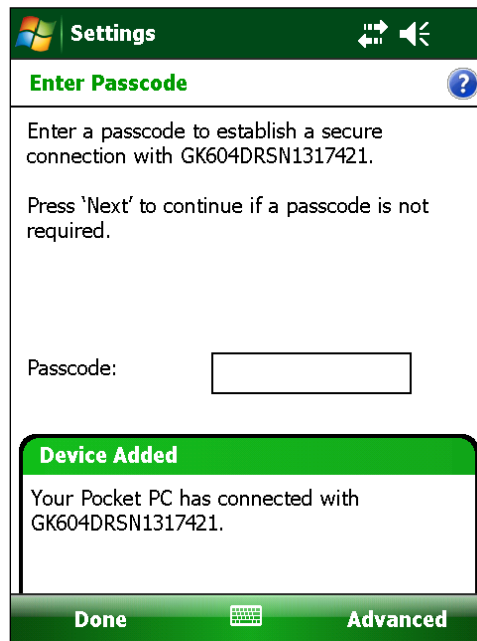

Figure 31 - Enter Passcode
- 5) A prompt will be displayed for a password; tap “Next”. If a partnership with the device is successfully established the screen will momentarily display the prompt shown at the bottom of Figure 31 and then return to the Bluetooth Devices screen. Click “Cancel” on the “Enter Passcode” screen then click “Done”.